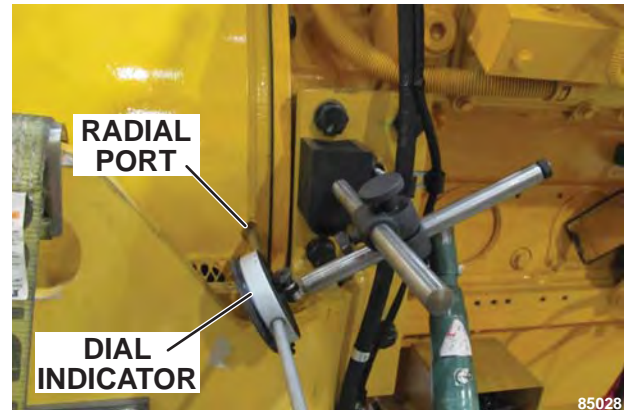

FIGURE 50-36. DIAL INDICATOR SETUP
2. Locate the dial indicator base on the side of the alternator housing. Insert the probe through the radial port of the alternator housing and zero the probe on the machined surface of the flywheel/flexplate. See Figure 50-36.